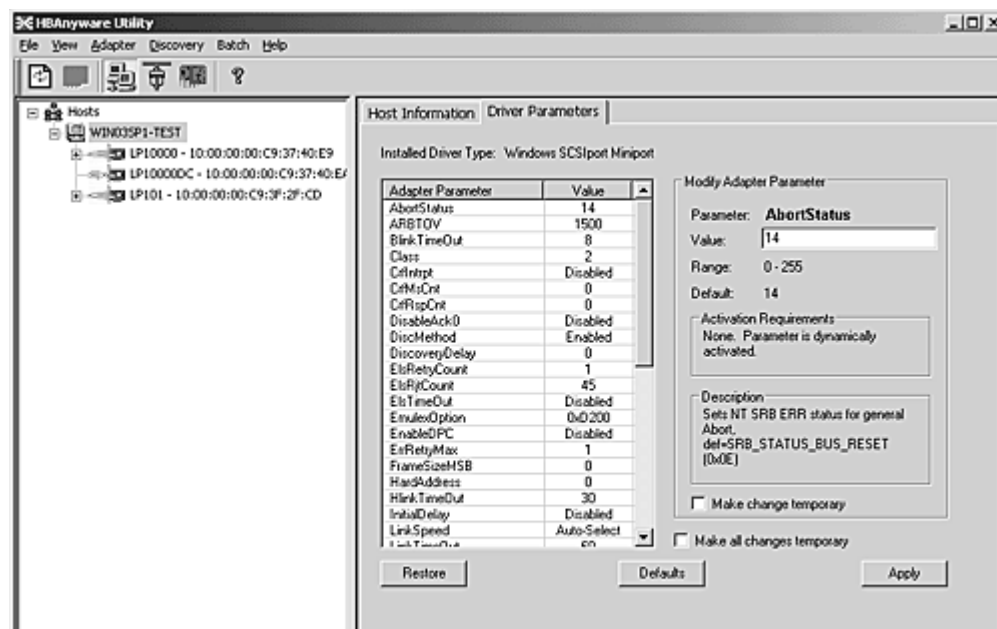

Figure 39: HBAnyware, Host Driver Parameters Tab (Example)
4. Select the host Driver Parameters tab (Figure 39). If there are HBAs with different driver types installed, the Installed Driver Types menu shows a list of all driver types and driver version installed on the HBAs in the host. Select the driver whose parameters you wish to change. The menu does not appear if all the HBAs use the same driver.